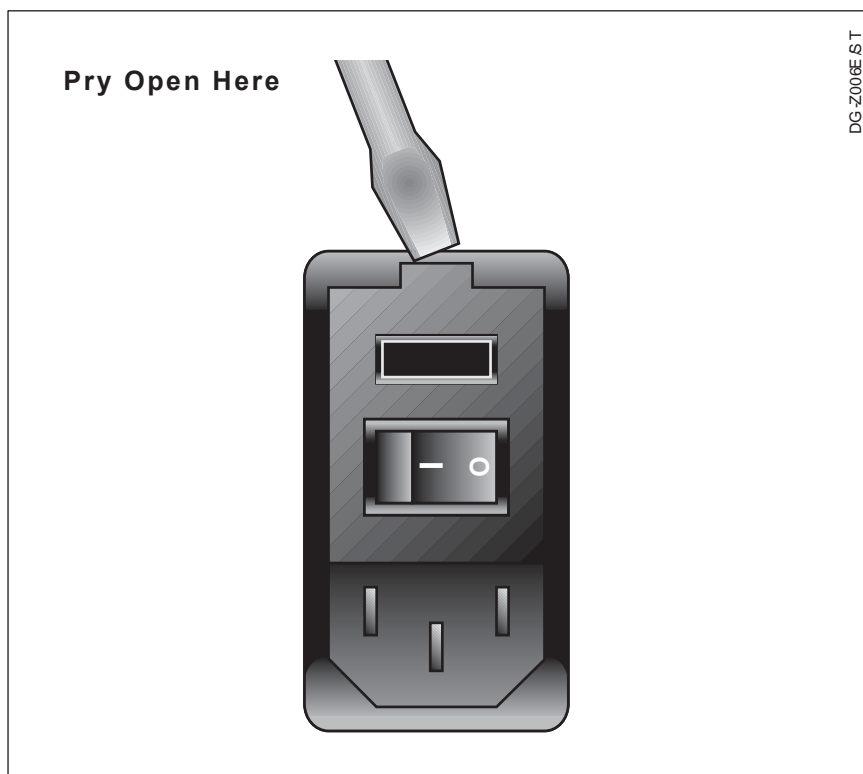

Figure 4.1 Fuse compartment
The degasser requires T1A fuse for all models. The fuse compartment (Figure 4.1) holds either size fuse. To change the fuses:
2. Use a small, flat-head screwdriver to pry open the fuse compartment (Fig. 4.1).